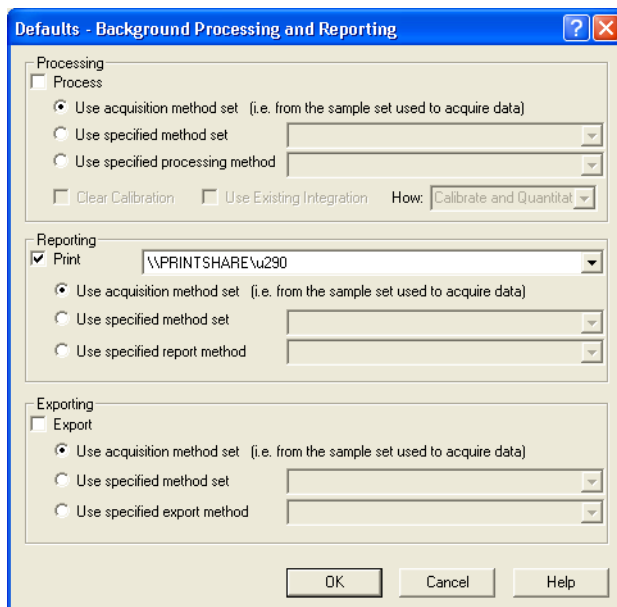

Figure 9-1 Background Processing and Reporting Dialog Box
4. Select all standards and unknowns to process and click  (Process). The Background Processing and Reporting dialog box appears (Figure 9-1).